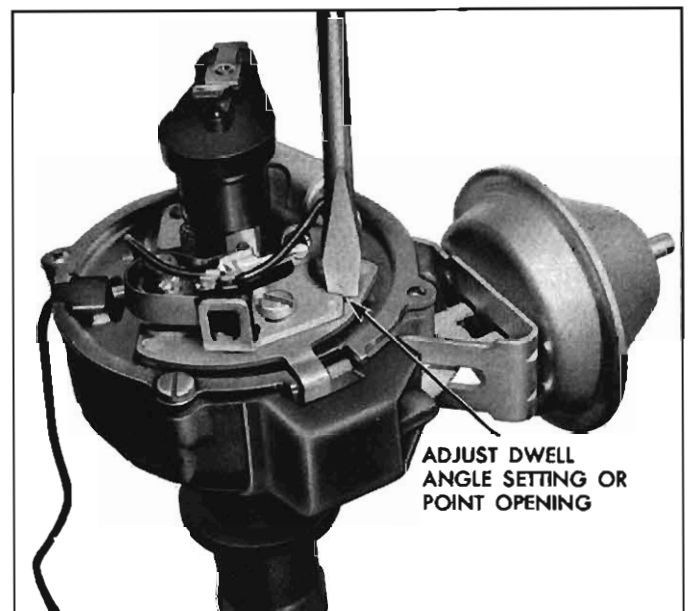

Fig. 8-5—Setting Point Opening
9. Set point opening (.019" for new points) (fig. 8-5).